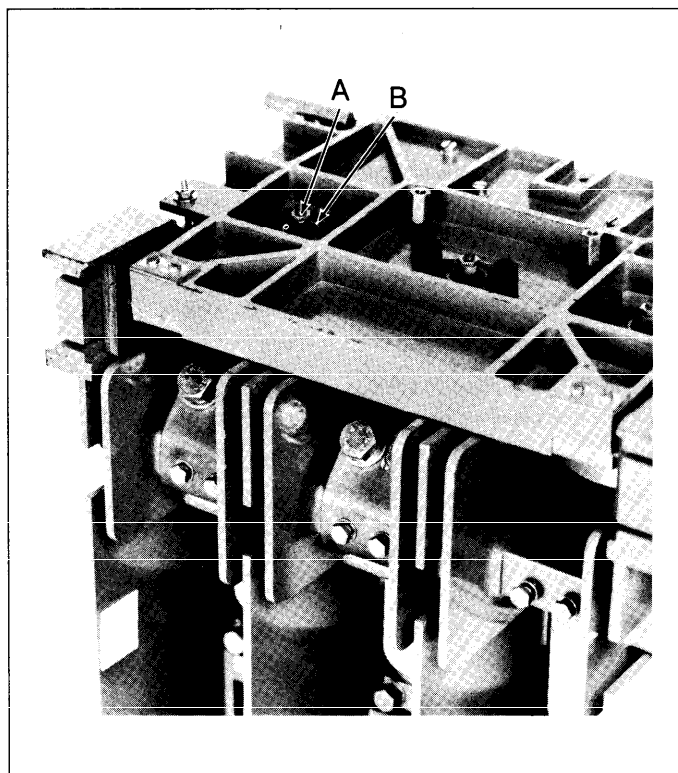

Figure 9. Removal of the nuts and spacer sleeve from interrupter driver stem.
1. Remove the two (2) nuts and the spacer sleeve from the top of the interrupter driver stem. Items A and B, Figure 9.